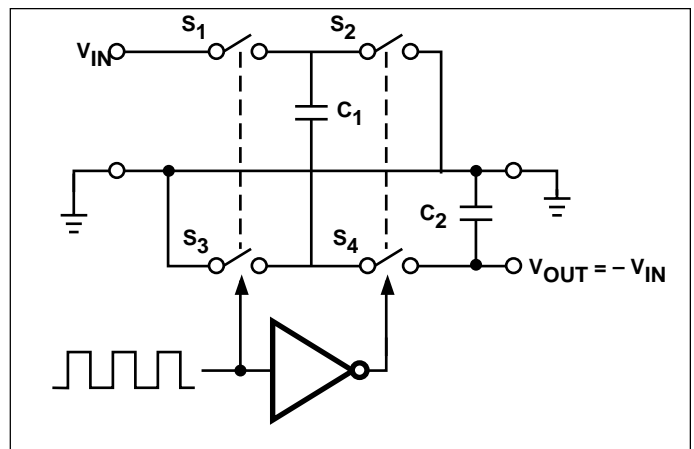
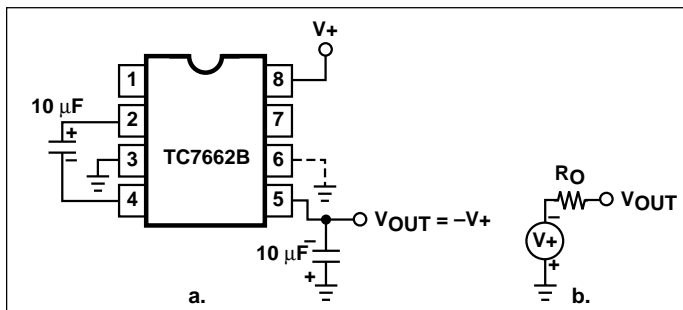
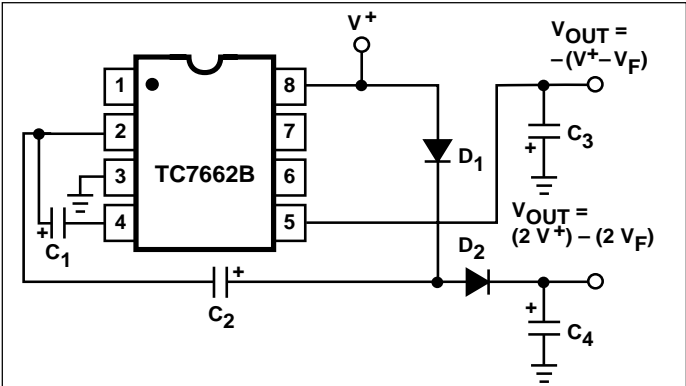

Figure 2. Idealized Negative Voltage Capacitor
Figure 3. Simple Negative Converter and its Output Equivalent
Figure 10. Combined Negative Converter and Positive Doubler
ELECTRICAL CHARACTERISTICS: $V^+ = 5V$, $T_A = +25^\circ C$, OSC = Free running, Test Circuit Figure 2, Unless Otherwise Specified.
The TC7662B contains all the necessary circuitry to complete a negative voltage converter, with the exception of two external capacitors which may be inexpensive 1 μ F polarized electrolytic types. The mode of operation of the device may be best understood by considering Figure 2, which shows an idealized negative voltage converter. Capacitor C₁ is charged to a voltage V⁺ for the half cycle when switches S₁ and S₃ are closed. (Note: Switches S₂ and S₄ are open during this half cycle.) During the second half cycle of operation, switches S₂ and S₄ are closed, with S₁ and S₃ open, thereby shifting capacitor C₁ negatively by V⁺ volts. Charge is then transferred from C₁ to C₂ such that the voltage on C₂ is exactly V⁺, assuming ideal switches and no load on C₂. The TC7662B approaches this ideal situation more closely than existing non-mechanical circuits.
In the TC7662B, the four switches of Figure 2 are MOS power switches; S₁ is a P-channel device and S₂, S₃ and S₄ are N-channel devices. The main difficulty with this approach is that in integrating the switches, the substrates of S₃ and S₄ must always remain reverse biased with respect to their sources, but not so much as to degrade their "ON" resistances. In addition, at circuit start up, and under output short circuit conditions (V_{OUT} = V⁺), the output voltage must be sensed and the substrate bias adjusted accordingly. Failure to accomplish this would result in high power losses and probable device latchup.
where V₁ and V₂ are the voltages on C₁ during the pump and transfer cycles. If the impedances of C₁ and C₂ are relatively high at the pump frequency (refer to Figure 2) compared to the value of R_L, there will be a substantial difference in voltages V₁ and V₂. Therefore, it is desirable not only to make C₂ as large as possible to eliminate output voltage ripple, but also to employ a correspondingly large value for C₁ in order to achieve maximum efficiency of operation.
The majority of applications will undoubtedly utilize the TC7662B for generation of negative supply voltages. Figure 3 shows typical connections to provide a negative supply where a positive supply of +1.5V to +15V is available. Keep in mind that pin 6 (LV) is tied to the supply negative (GND) for supply voltages below 3.5 volts.
The output characteristics of the circuit in Figure 3 can be approximated by an ideal voltage source in series with a resistance as shown in Figure 3b. The voltage source has a value of $-(V_+)$. The output impedance (R_O) is a function of the ON resistance of the internal MOS switches (shown in Figure 2), the switching frequency, the value of C_1 and C_2 , and the ESR (equivalent series resistance) of C_1 and C_2 . A good first order approximation for R_O is:
Figure 10 combines the functions shown in Figures 3 and 9 to provide negative voltage conversion and positive voltage doubling simultaneously. This approach would be, for example, suitable for generating +9V and -5V from an existing +5V supply. In this instance, capacitors C_1 and C_3 perform the pump and reservoir functions, respectively, for the generation of the negative voltage, while capacitors C_2 and C_4 are pump and reservoir, respectively, for the doubled positive voltage. There is a penalty in this configuration which combines both functions, however, in that the source impedances of the generated supplies will be somewhat higher due to the finite impedance of the common charge pump driver at pin 2 of the device.